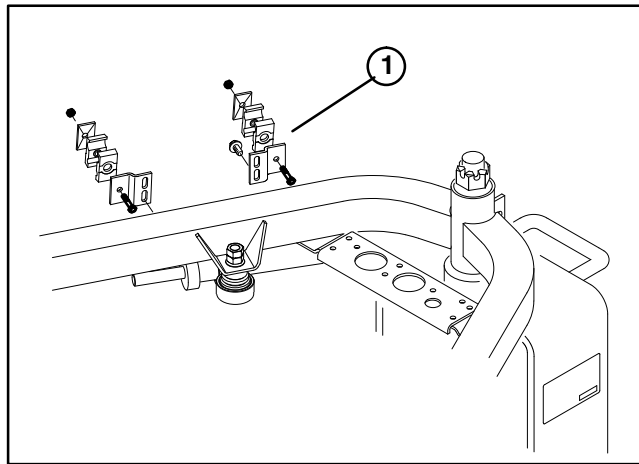

Figure 4
23. Secure hose clamp brackets to frame as shown in figure 4 with (4) self tapping screws.